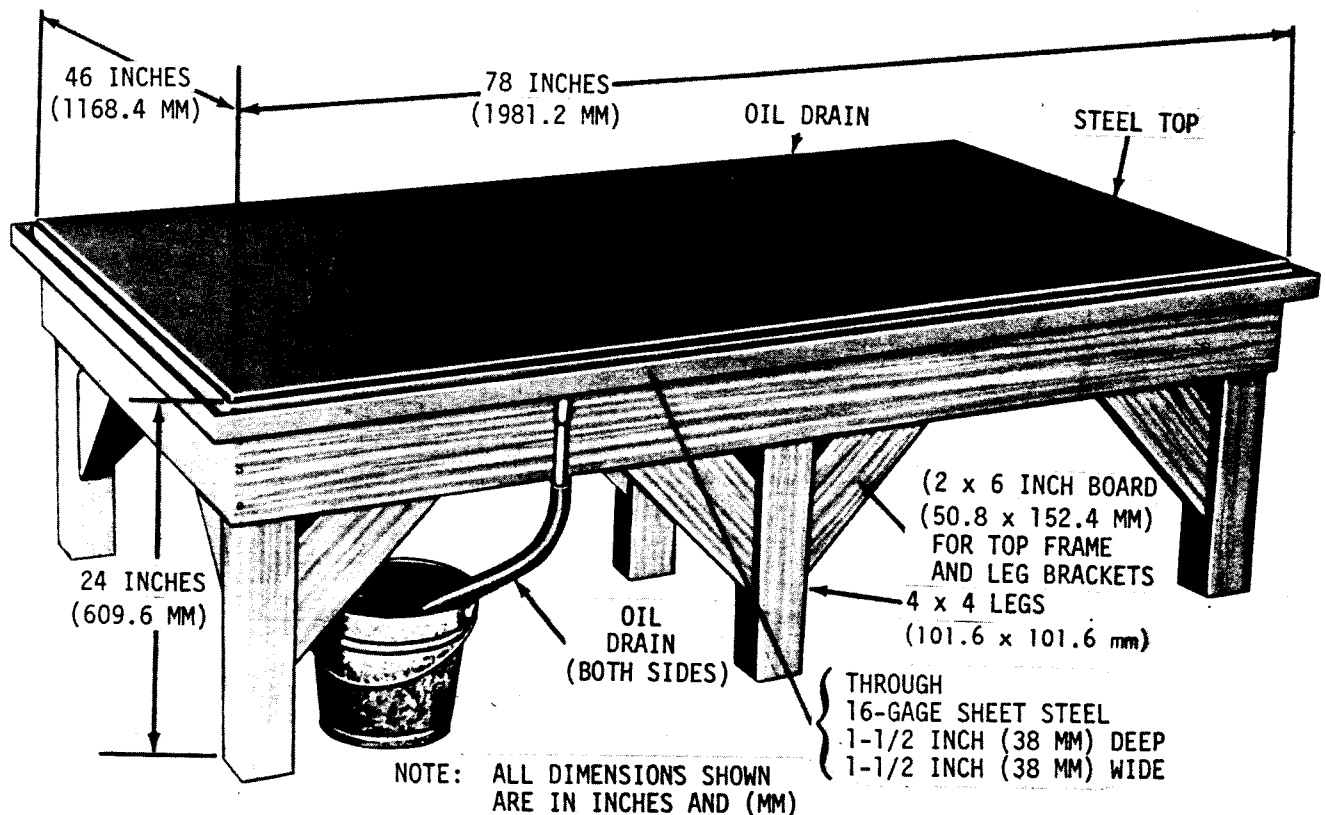

Fig. IV-1. Disassembly and assembly table
(1) Chain hoist (at least 1-ton capacity).
(2) Suitable disassembly and assembly table (fig. IV-1).
(3) Press (for removal, installation of press-fit parts).
(4) Supply of wood blocks.
(5) Clean wiping cloths (do not use linty waste).
(6) Parts receptacles.
(7) Cleaning equipment (brushes, solvent, etc.)
(8) Torque wrenches.
(9) Oil-soluble grease.
(10) White lead.